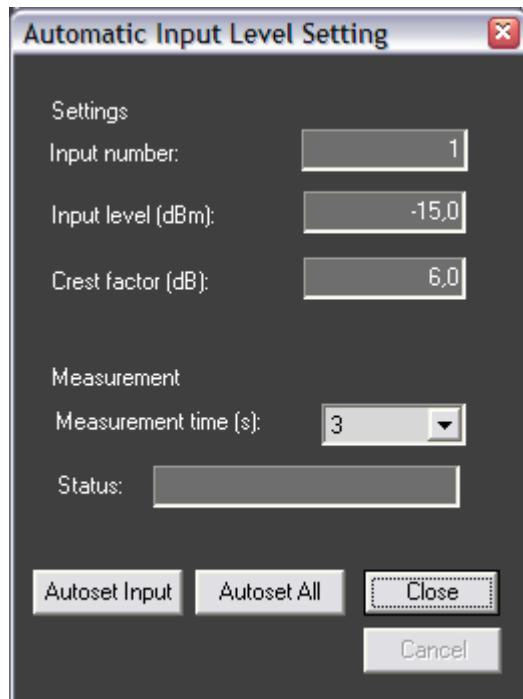

Figure 71. AILS settings dialog
- AILS setting dialog is shown in Figure 71.